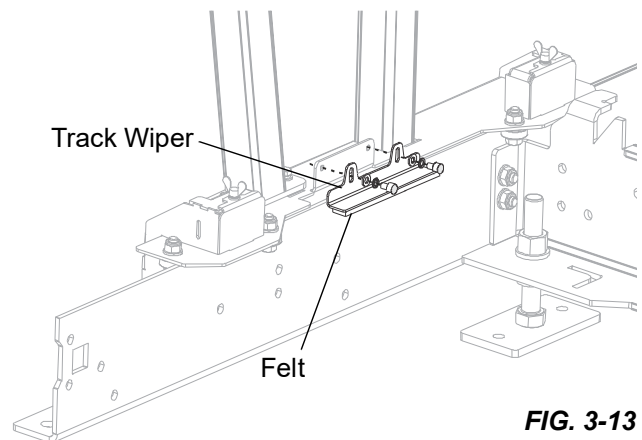

FIG. 3-13
- Install the felt pad (from Bed Kit bag) on the track wiper bracket. See Fig. 3-13.
- Adjust the track wiper so that the felt touches the track rail surface and the sawhead moves freely on the bed. See Fig. 3-13.